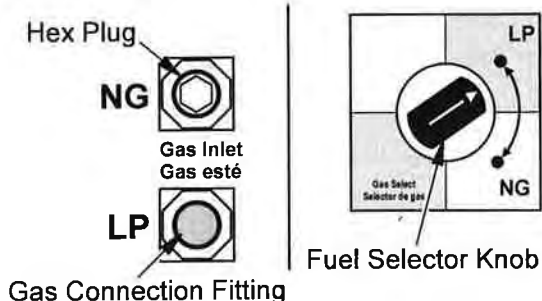

Figure 6 - Settings for Propane/LP Gas Selection
2. For propane gas, press in knob using a flat screwdriver with a blade the thickness of a quarter and turn knob counterclockwise until the knob locks into the LP position (see Figure 6). Fuel selection device must be locked in the LP position. Do not operate heater between locked positions.
4. Remove hex plug (with wrench provided) from propane/LP gas inlet of regulator (see Figure 6). Install gas line into LP inlet of regulator. Use thread sealant to assure there are no leaks.